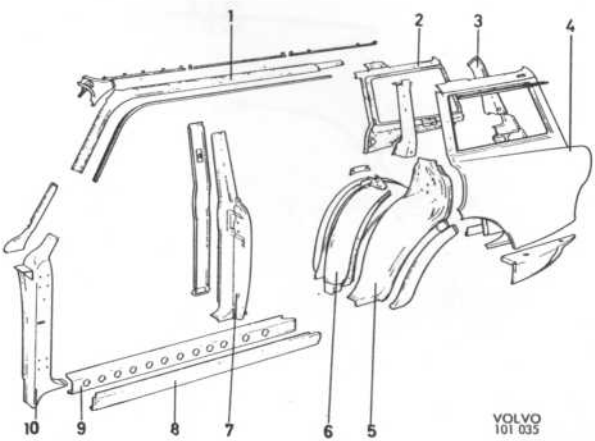

Fig. 9. Side section, Station Wagon
The side section (Fig. 9) consists of the front pillar (10), intermediate pillar (7), rear section, intermediate (9) and outer (8) cantrails, inner and outer